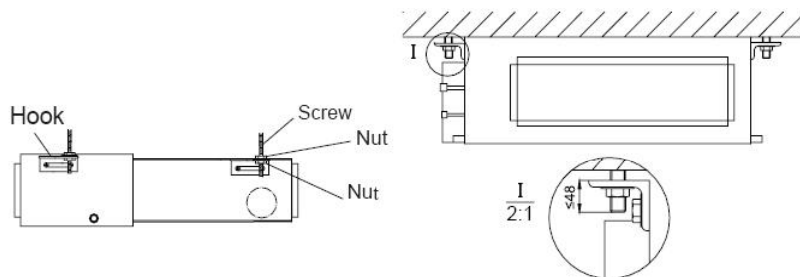

Fig. 4.6
4. Pass the unit hangers over the bolts installed to the ceiling and install the unit with the special nut. (Fig. 4.6)